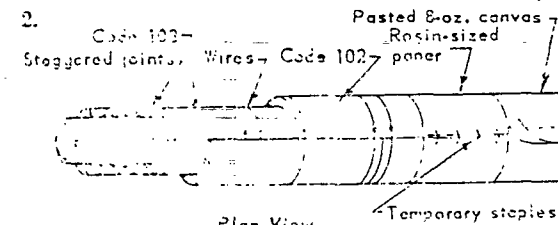

FIGURE 2
4.1. The lagging shall be applied to the pipe and secured with wires or bands as specified in Table 1. Wires shall be applied with at least four separate loops per section, twisted, bent and hammered into the insulation. Bands shall be applied four per section of insulation, tightened, and held with band seals. Wire or bands should be located 1 inch from the end of the section. See Figure 2.
6.2 The pipe insulation shall be wrapped with Rosin-sized Paper, Code 705, cut to fit, drawn tight, and fastened in place with Langer's Staples, Code 911. High-tensile Canvas, Code 704, shall be applied over the Rosin-sized Paper. The canvas shall have strips that are 2 inches minimum wide and shall be removed as the canvas is applied. The canvas shall be bonded with Langer's adhesive, Code 912. The canvas shall be tightly stretched free of wrinkles and raised edges. The canvas shall be bonded to the top or bottom, whichever is most visible. See Figure 2.
7.1 Fitters and valves shall be insulated with Block or pipe insulation. The insulation shall be drawn tight and fastened in place with Langer's Staples, Code 911. The canvas shall be applied over the insulation and bonded with Langer's adhesive, Code 912. The canvas shall be tightly stretched free of wrinkles and raised edges. The canvas shall be bonded to the top or bottom, whichever is most visible. See Figure 2.